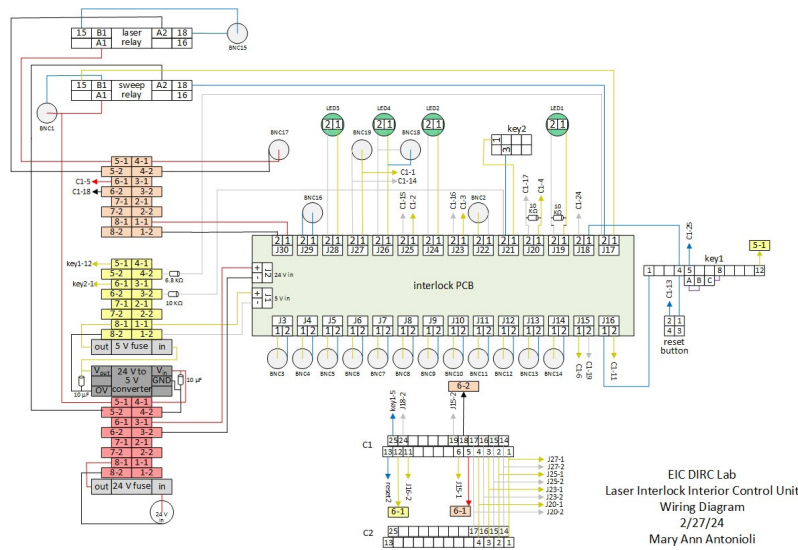
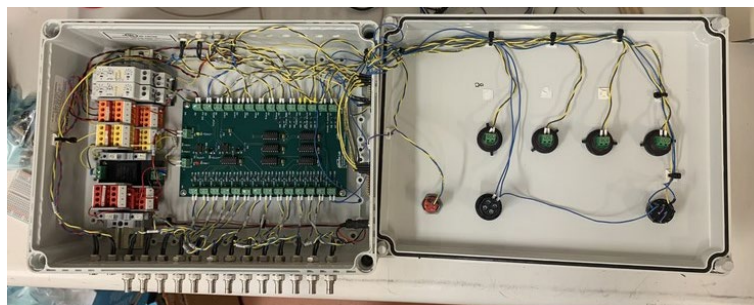

FIG. 1. Wiring diagram for the laser interlock control unit.
FIG. 2. Photo of the fabricated laser interlock control unit.
The line colors of the control unit’s wiring diagram, Fig. 1, match the colors of the actual wiring, Table I.
In Fig. 1, the terminal blocks are shown on the left (orange, yellow, and red) and the green rectangle is the laser interlock PCB, which determines if the laser output should be disabled; these are attached to the bottom of the unit. Connectors C1, C2 and BNCs are on the unit’s side; key 1, reset button, and LEDs are on the unit top. Figure 2 shows a photo of the completed laser interlock control unit.